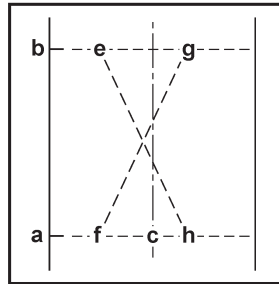
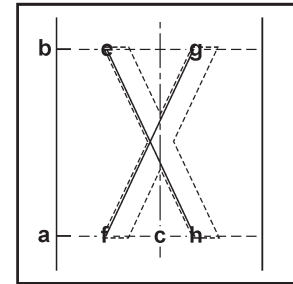

Figure 40
Figure 41
4. Snap a chalk line diagonally across the lane from point “e” to point “h”, and from point “f” to point “g”. The left edge of the tape will be applied on points “e, f, g, and h” (see Figure 40).
5. Apply one coat of E-44T to the pavement in the area shown in Figure 40. Make sure the adhesive extends at least 1 inch beyond the edges of where the tape will be positioned. Let the adhesive dry until tacky (see Figure 41).